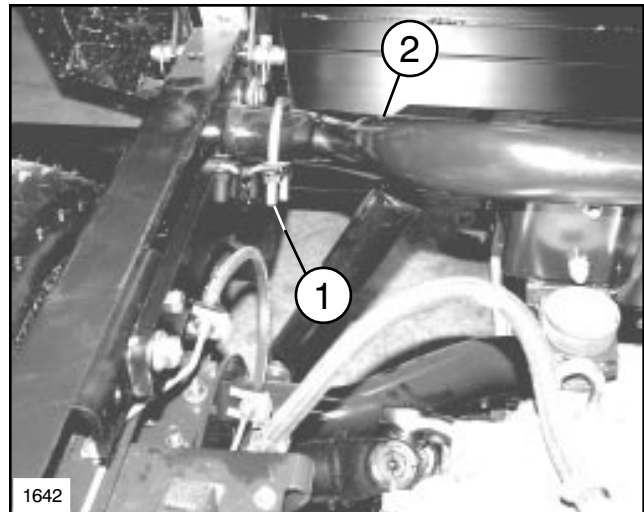

FIG. 2
3. Using two (92-2752) U-Bolts, (one for each side) wrap the U-Bolts around the Transaxle Support Tube on the Workman® unit. Insert the threaded ends of the U-Bolts through Welded Brackets on the Bumper Assembly. Using four (two for each U-Bolt) 3/8” Flange Lock Nuts, equally tighten each side of the U-Bolts securely. See FIG. 2. Securely tighten the four screws and nuts on the Hitch Arm Brackets previously installed in Step 2. The Bumper Assembly is now complete.